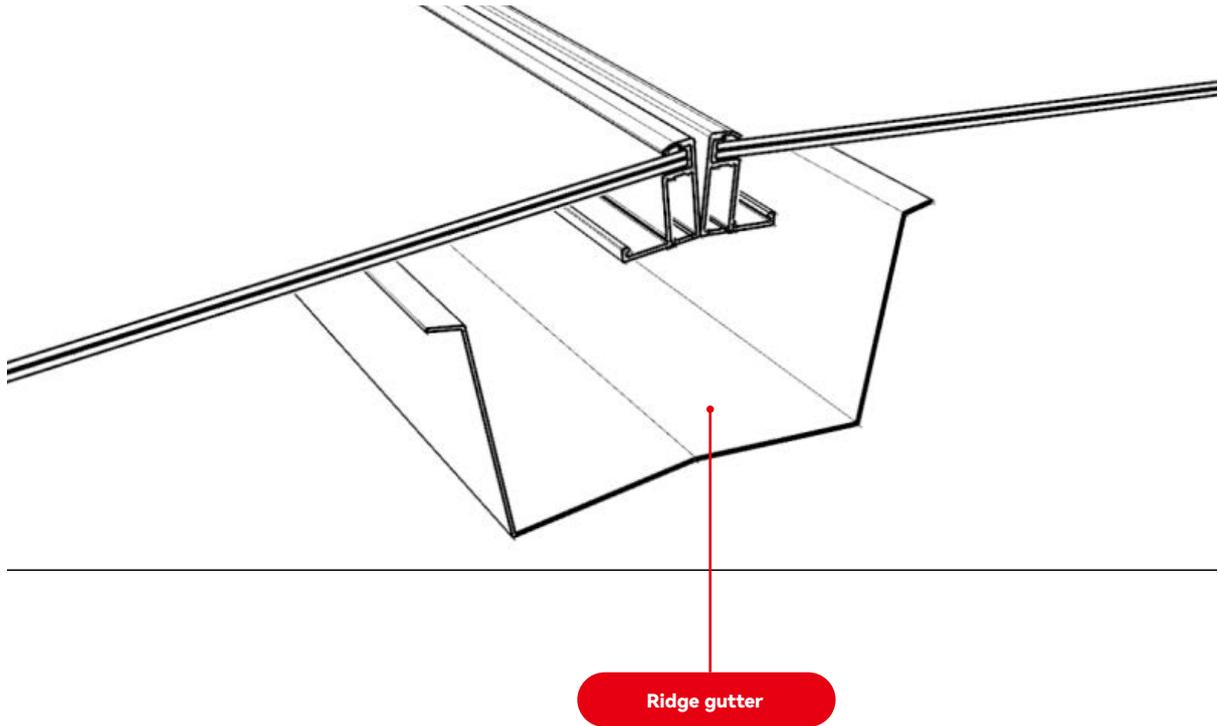

FIGURE 27
- Install the finished ridge gutter.(Figure 27)